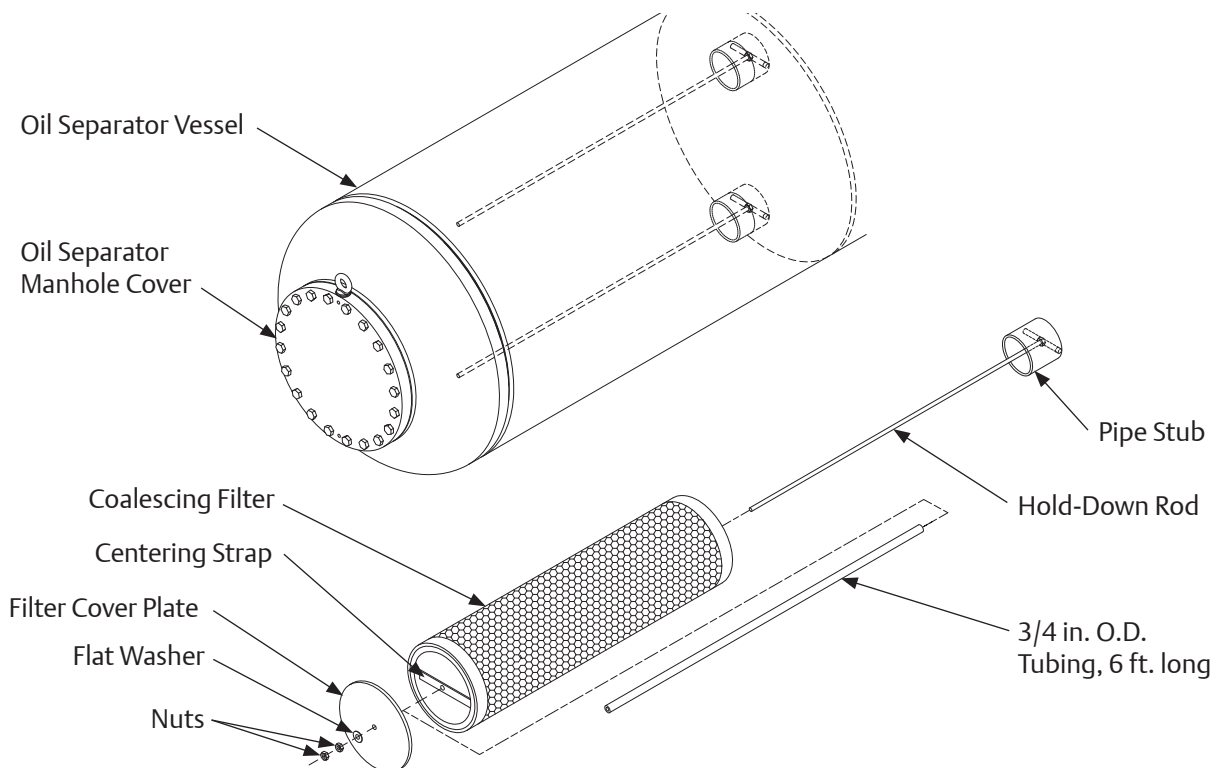

Figure 5-6. Oil Separator Manhole Cover and Coalescing Filter Assembly
2. If required, install lifting eyes on oil separator manhole cover, see Figure 5-6.